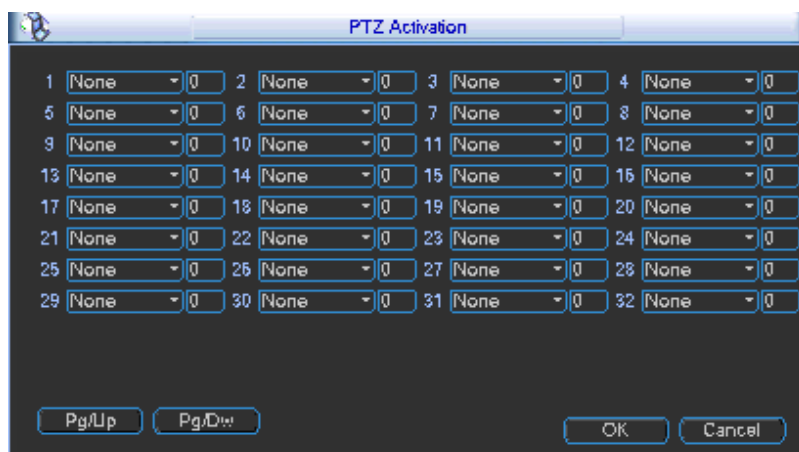

Figure 3-50
- PTZ activation: Here you can set PTZ movement when alarm occurs. Such as go to preset when there is an alarm. Click “select” button, you can see an interface is shown as in Figure 3-50. Click PgUp/PgDn to set more channels.